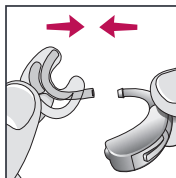

Figure 2
2. Slide the Custom Earmold tubing onto the BTE earhook when completely dry (Fig. 2).